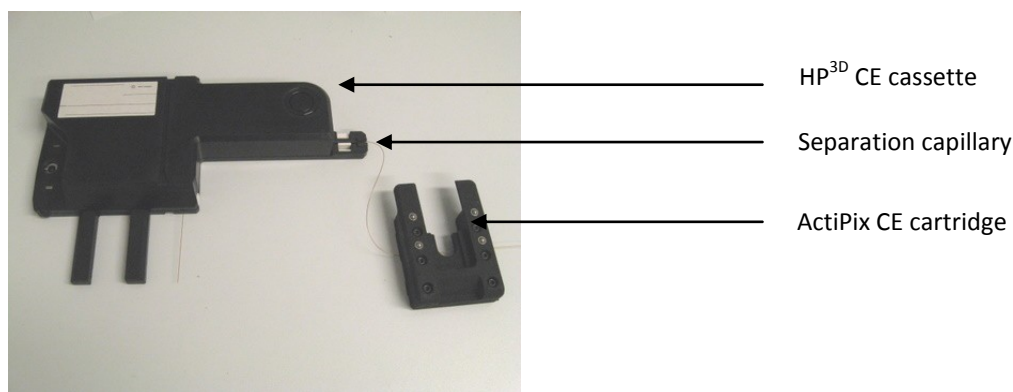

Figure 7. A fully assembled cassette and cartridge with separation capillary running between both
8. The cassette and cartridge are now fully assembled - see Figure 7.